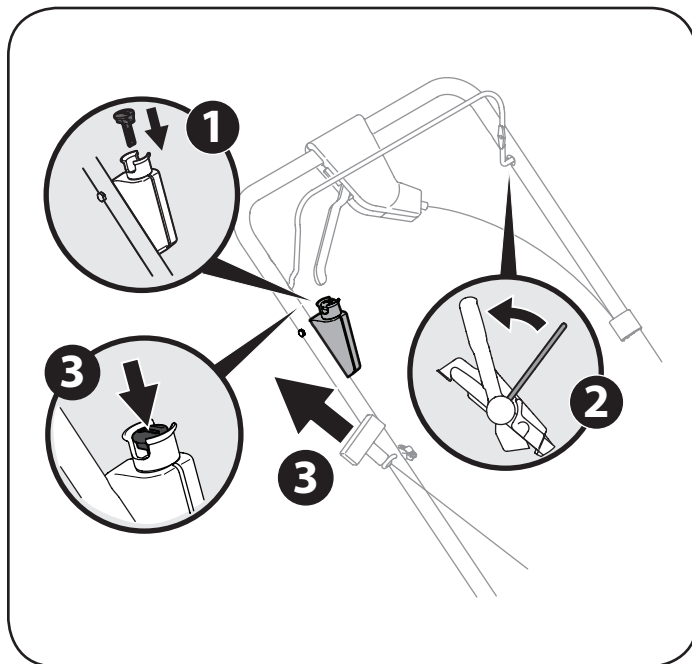

Figure 15
2. Standing behind the mower, depress the blade control handle and hold it against the upper handle. See Figure 15.
3. **Electric Start:** Push the electric starter push key to start the engine. See Figure 15.